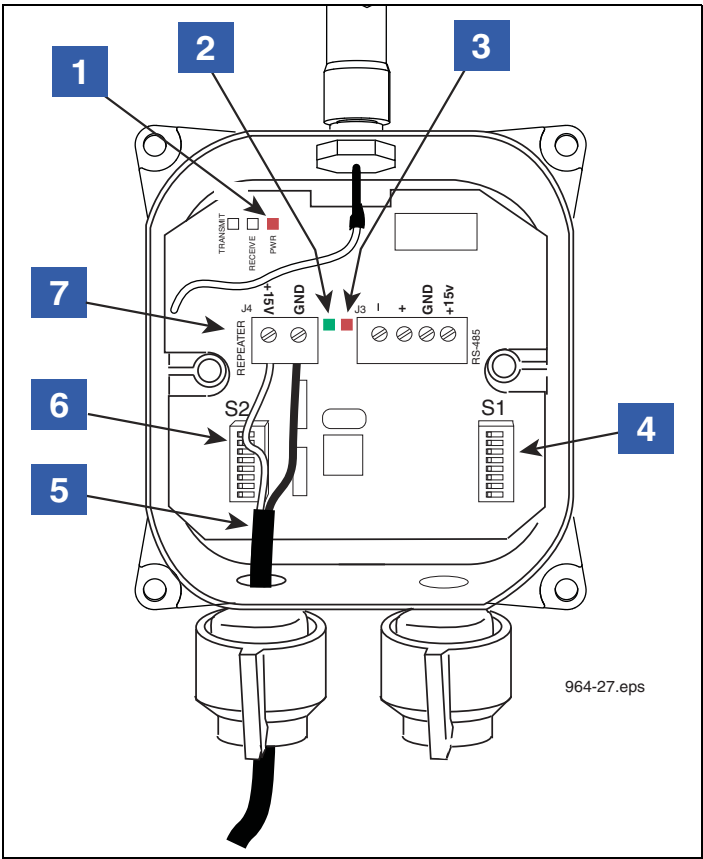

Figure 33. Wiring The Repeater
9. +15 Vdc power source for the Repeater. If used, connect two wires from item 9 connector in Receiver to item 7 connector in Repeater, see Figure 33.
4. Note the cover of the Repeater indicates the cord grip to be used for the cable connecting the Repeater to its dc power source (item 5 in Figure 33). Remove the cover of the Repeater and set it aside.
6. Connect the 2-wire dc power cable to the Repeater terminal block, white to +15 Vdc and black to GND (see item 7 in Figure 33).
LEGEND FOR NUMBERED BOXES IN Figure 33